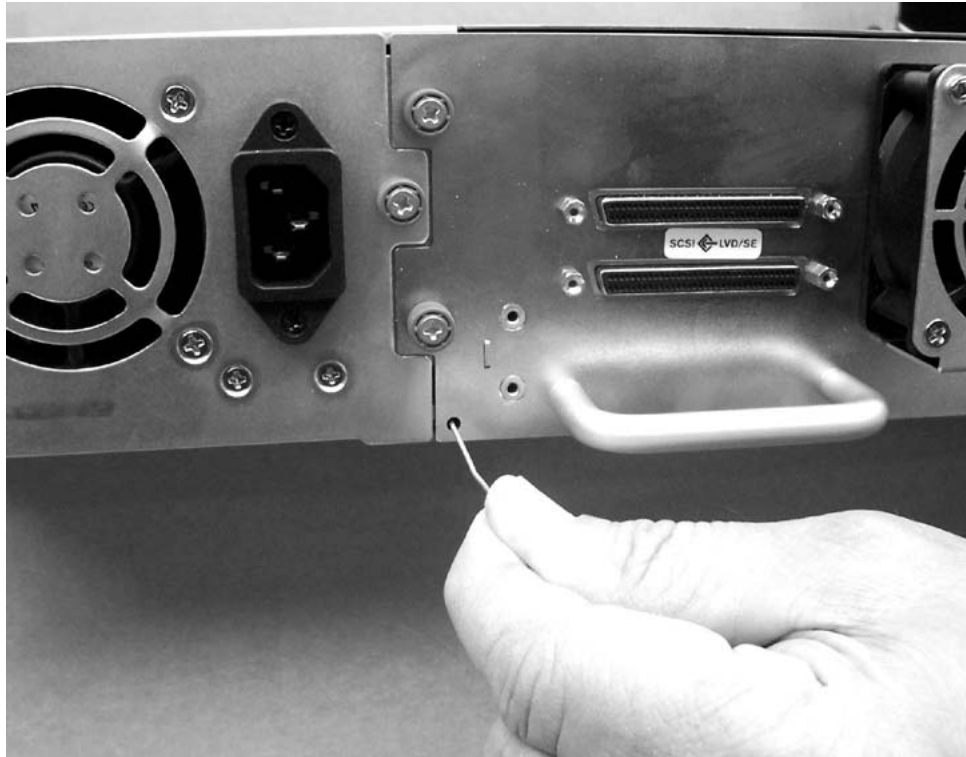
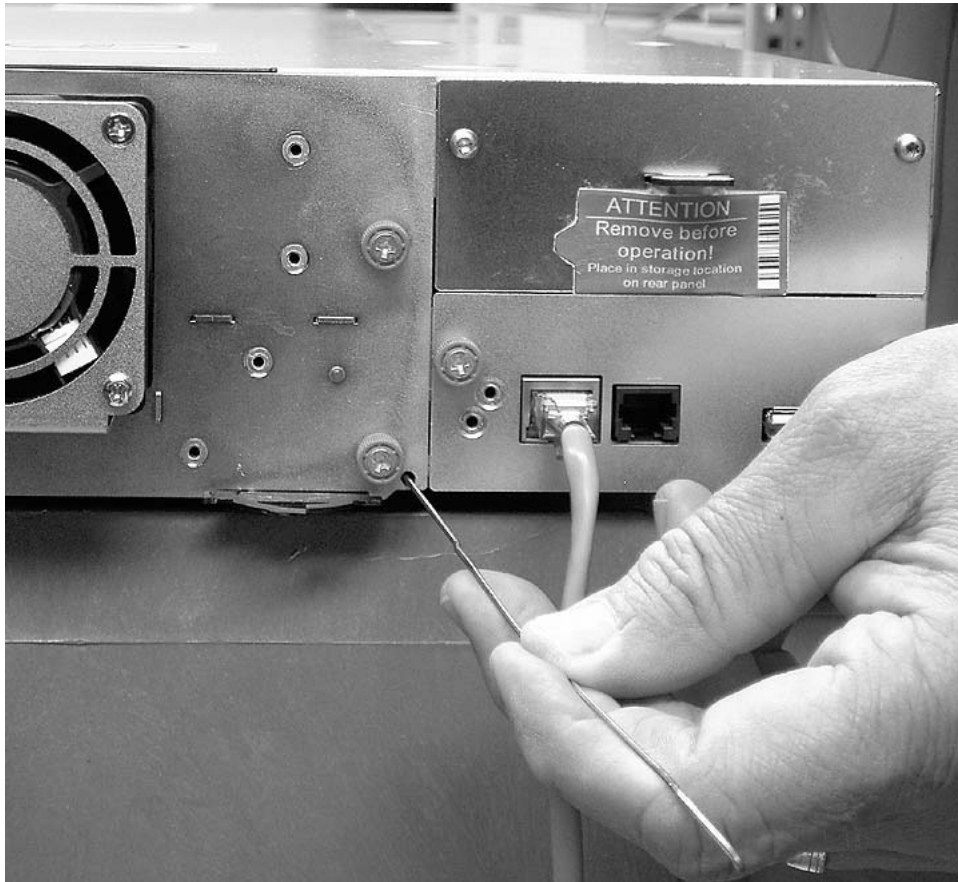

Figure 10-21. Access hole for the left magazine (facing rear of library)
Figure 10-22. Access hole for the right magazine (facing rear of library)
- a. Find the access holes for the right and left magazines (see Figure 10-21 on page 10-23 and Figure 10-22 on page 10-24).